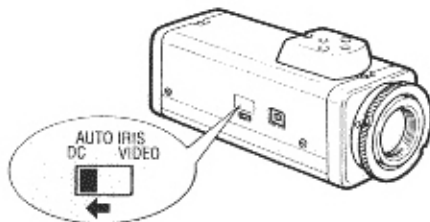

Fig. 1
- (1) Make sure the Selection switch on the camera is set to DC position. (Fig. 1)